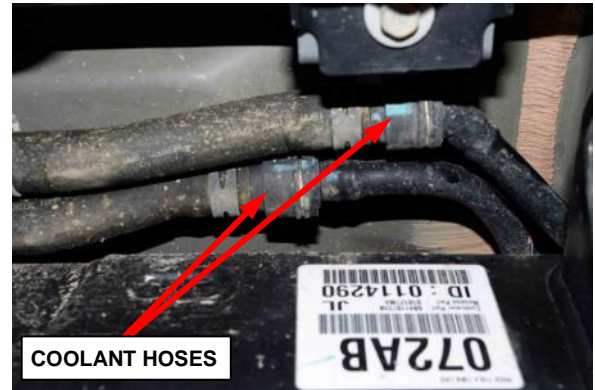

Figure 10 – Coolant Hoses
13. Position a drain pan under the coolant hoses (Figure 10).
14. Remove the coolant hoses from the coolant line and drain the power electronics cooling system (Figure 10).
15. Once the system is completely drained, reinstall the coolant hose to the coolant line (Figure 10).